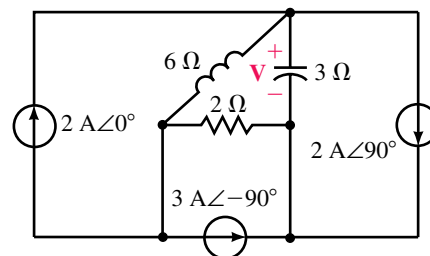

FIGURE 19–64
18. Refer to the circuit of Figure 19–64.